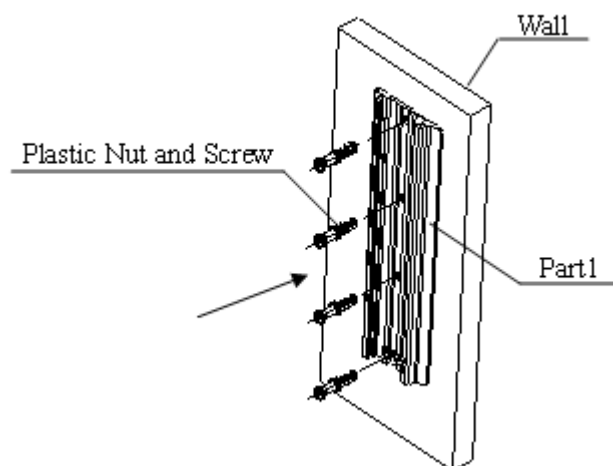

Figure 2-1
3. Knock 4 screws in the plastic nuts, when tighten them, secure the channel (part1) at the desired location of the wall (as shown in Figure 2-1).